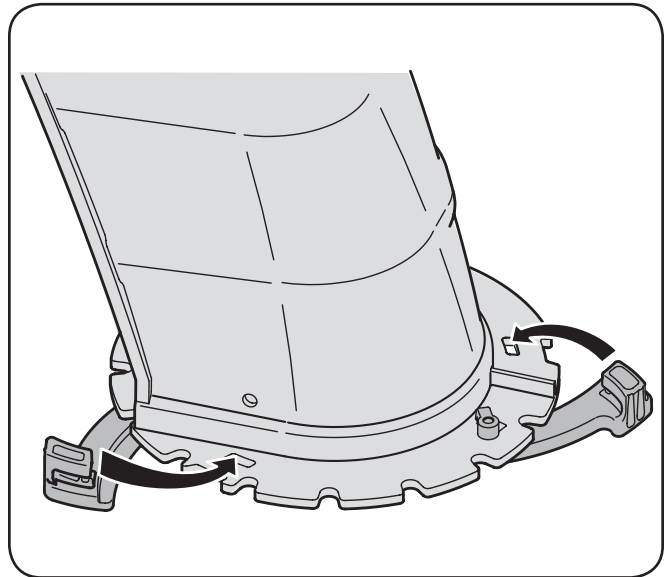

Figure 3-24
2. Close the flange keepers to secure the chute assembly to the chute base. The flange keepers will click into place when properly secure. See Fig. 3-24.